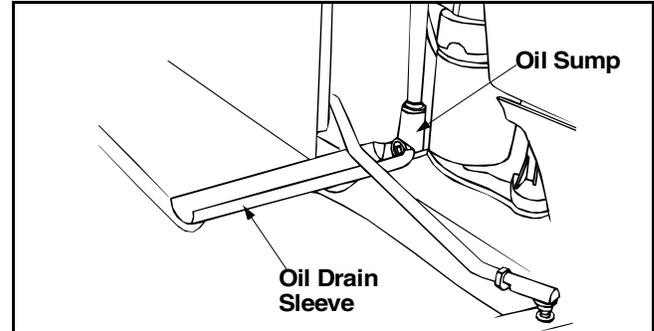

Figure 26
- Your lawn tractor may have a plastic oil drain sleeve packed with the loose parts for your convenience in draining oil from the crankcase. To drain the oil, snap small end of oil drain sleeve onto oil sump. Remove drain plug and drain oil into a suitable container. See Figure 26.